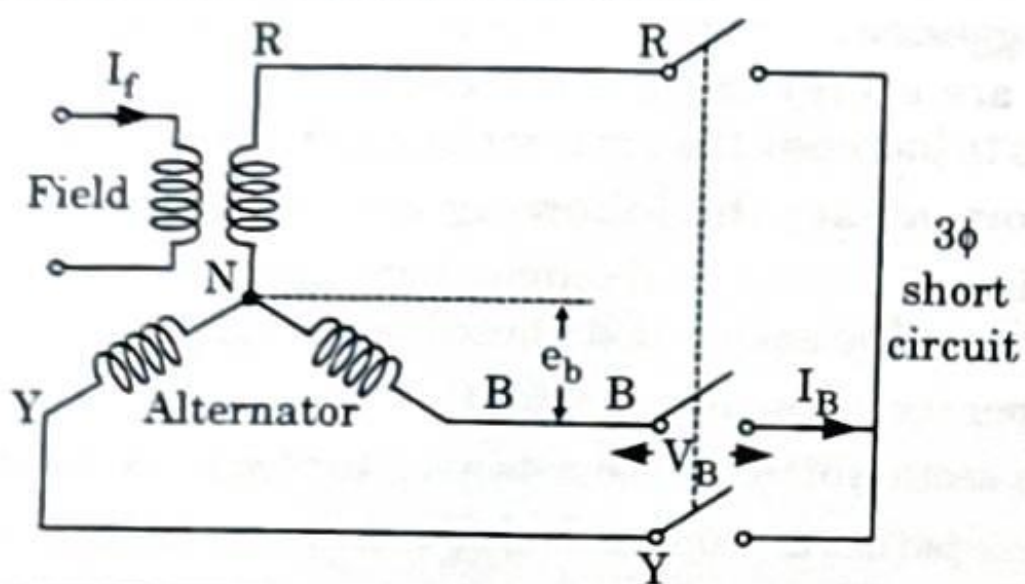

Fig. 4.6.1. Sudden 3-phase short circuit of an alternator.
1. Let us consider an alternator on no load to which a circuit breaker is connected which is shown in the Fig. 4.6.1. The circuit breaker is in open position with its other side short circuited.